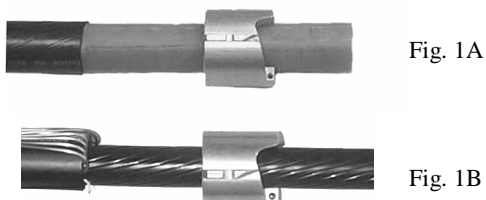

Fig. 1
**Step 1.** (Fig. 1) Check the bushing by sliding it over polyethylene insulation (Fig 1A) or semi-con over EPR insulation (Fig. 1B). The bushing should fit snugly and still rotate easily on the cable. *We recommend the use of lubricant be used on the semi-con over EPR cable.*